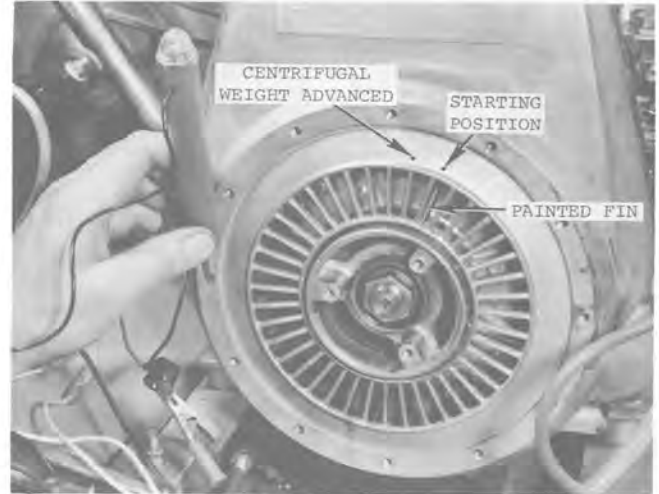

Fig. 5 - Checking Timing
External changes between these engines, and the L-380 may be noted by comparing the following photographs with Figs. 5, 6 and 7 of Part 1.
4. Connect a suitable test light to black and blue wire connector (removed from ignition coil) and rotate flywheel slowly clockwise (facing flywheel) while noting timing marks and test light. See Fig. 5. If timing is satisfactory, light will dim when marked fin on flywheel lines up with first mark on flywheel housing.